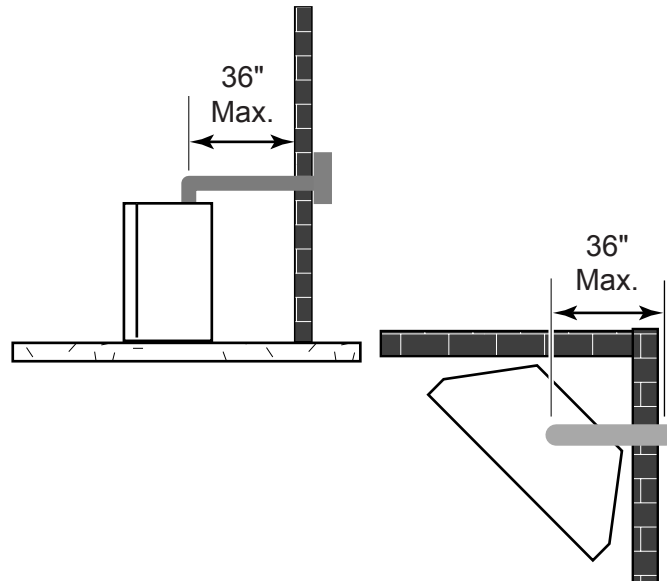

Figure 25 - Maximum Horizontal Run with No Rise
- If a 90° elbow is fitted directly on top of the fireplace flange the maximum horizontal vent run before the termination or a vertical rise is 36" (914 mm). *See Figure 25.*
In Figures 25 and 26, Dimension A plus B must not be greater than 17' (5.2m).